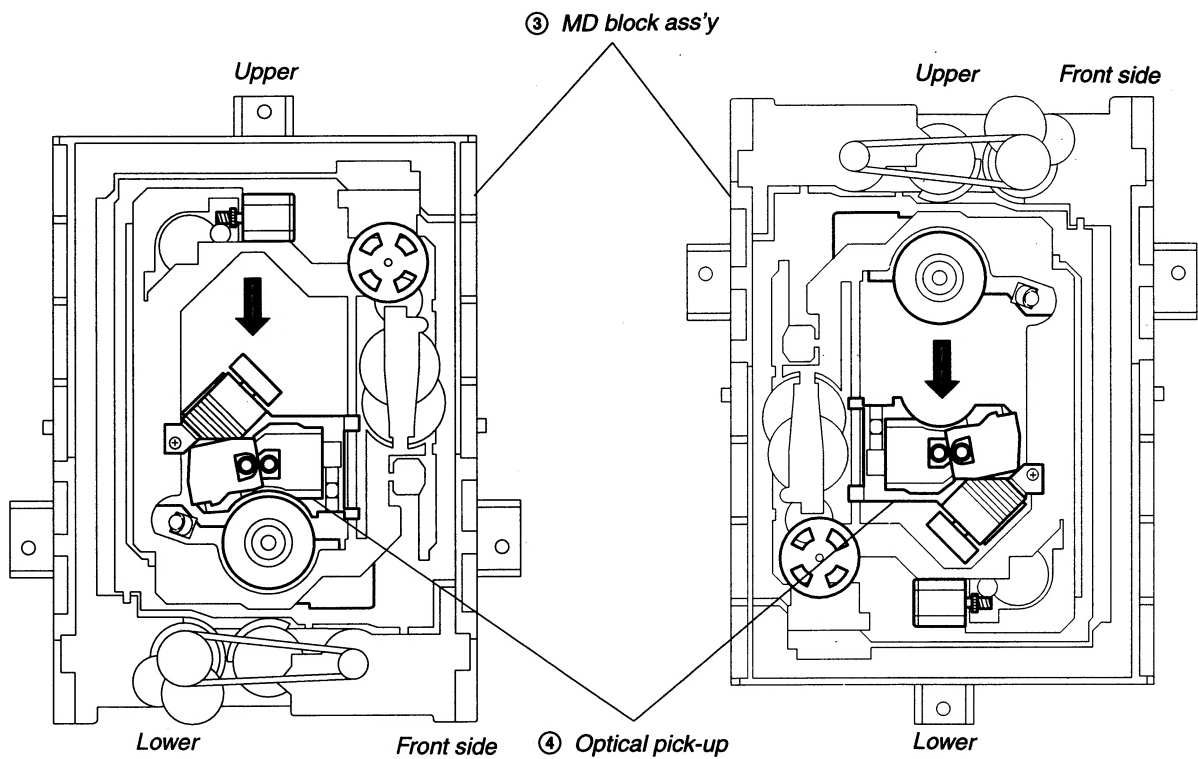

Fig. 9
- 3) Raising the MD block ass'y ③ 90 ° with the side down, confirm that the optical pick-up ④ falls by self weight. (See Fig. 9)
- 4) Further, with the front side of MD block ass'y ③ up, confirm that the optical pick-up falls by self weight.